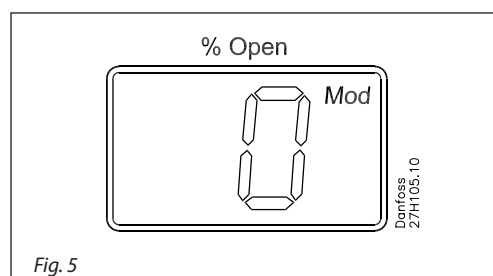

Fig. 5
- Normally the Opening Degree (OD) 0 - 100 % of the ICM valve is displayed. No activation of push buttons for 20 seconds means that the display will always show OD (see fig. 5).